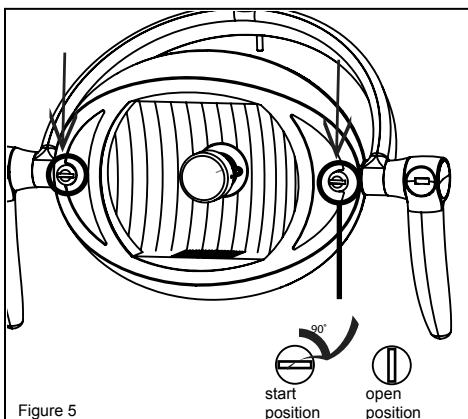

Figure 5
5. As per fig.5 connect the male connector placed in the arm to the female connector placed in the light head. Insert the light head pivot in the bend (called light head bend); make sure that the threaded hole of the pivot is in line with the small one on the arm. Place the M5 screw supplied with the light into the hole and screw it all the way until locking position. Check for stability.
2. Rotate the plastic knob placed on the protection shield 90° in a clockwork sense as per fig.5 and take it out.
6. Reinsert the front metal bayonet cap and make sure that it is properly fixed. Put on the protection shield and fix it by rotating anticlockwise the plastic knobs. (Fig. 5)